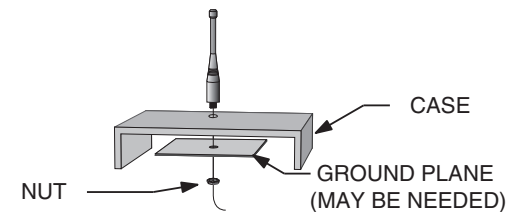

Figure 32: Remote Ground Plane
6. In some applications, it is advantageous to place the module and antenna away from the main equipment (Figure 32). This can avoid interference problems and allows the antenna to be oriented for optimum performance. Always use  $50\Omega$  coax, like RG-174, for the remote feed.